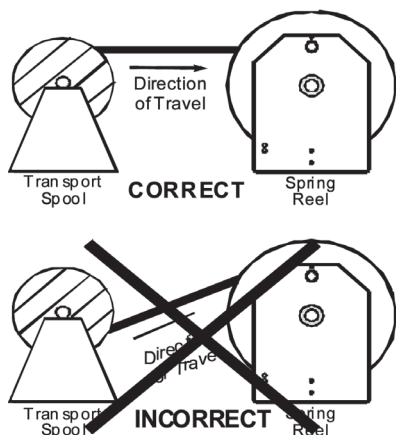

Figure 4-12
1. Prepare the cable to be loaded onto the reel. Support the cable as shown, or lay the full length of cable out in the direction of travel. Make sure the cable will lay flat by removing any twist from the cable. All weld cable lead ends should be tinned for optimal performance. **See Figure 4-12.**